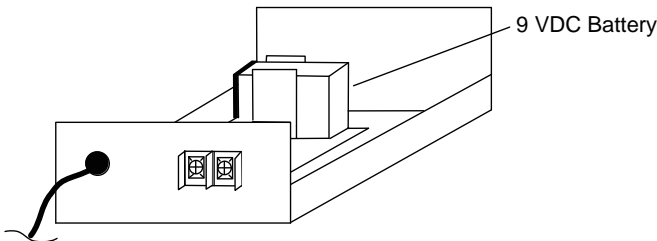

FIGURE 7
9. To provide battery back-up, remove the two side screws and install a 9 VDC battery (Figure 7). Press the test switch to ensure that the alarm sounds and the battery backup system is working. Reinstall the side screws.